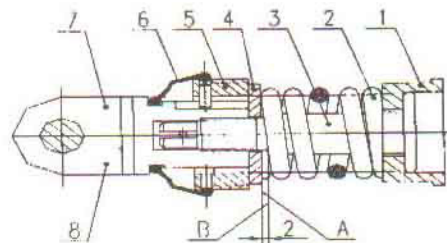

Figure 4.3.8.1 Adjusting spring
1. Adjust adjusting spring (figure 4.3.8.1)
Before force adjusting spring assembly is installed into lifter housing, it should be adjusted as following: turn relatively upper pull rod connecting joint and spring rod and eliminate the clearance among all parts to ensure the clearance between A face of spring pressure plate and B face of spring rod to be 2 mm. Then insert pin. Besides, install force adjusting spring assembly into lifter housing and screw nut to make front end of force adjusting spring assembly touch E face of lifter housing. Finally, insert pin from nut hole (figure 4.3.8.1).